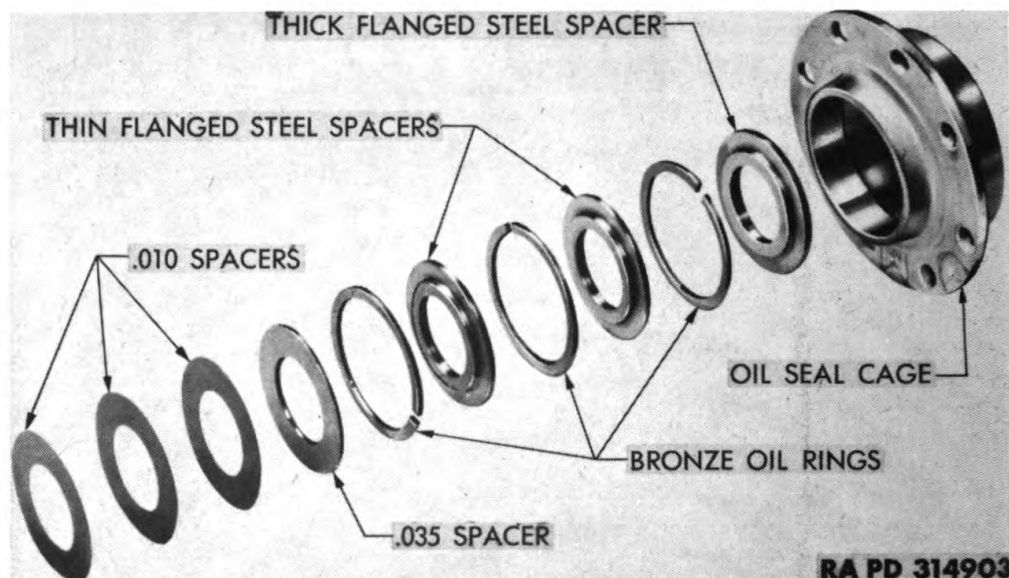

Figure 167 — Oil Seal Rings — Disassembled
f. **Install Oil Rings.** Place diffuser section with impeller side up in special mounting block No. 2. Squirt a liberal amount of engine oil between impeller drive shaft and oil seal cage (fig. 166). Install thick-flanged steel spacer with large diameter down, over shaft and in oil cage (fig. 167). Next, install, in order, over shaft, new bronze oil ring, thin-flanged steel spacer with large diameter down, another